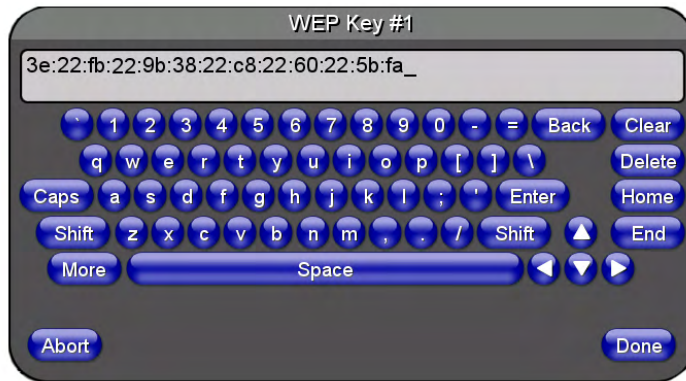

FIG. 24 WEP Key # Keyboard
- **This series of hex digits (26 hex digits for a 128-bit encryption key) should be entered as the Current Key into both the WAP and onto other communicating Modero panels by using the WEP Key dialog (FIG. 24).**
9. Write down this Current Key string value for later entry into your WAP's *WEP Key* field (typically entered without colons) and into other communicating panel's *Current Key* field (FIG. 24).
10. **If you are entering a Current Key generated either by your target WAP or another Modero panel**, within the *WEP Keys* section, touch the **Key #** button to launch the *WEP Key #* keyboard (FIG. 24), enter the characters and press **Done** when finished.